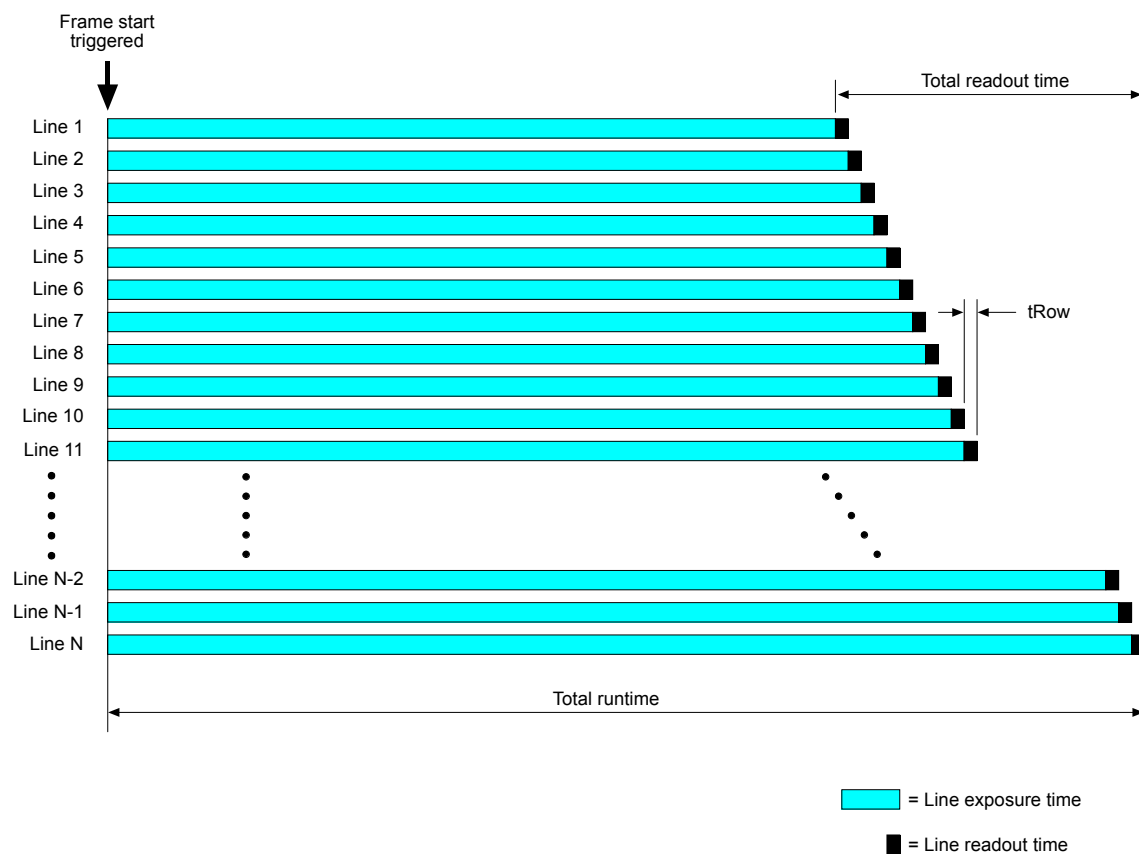

Fig. 78: Global Reset Release Shutter Mode
- And so on until the bottom line of pixels is reached (see Figure 78).